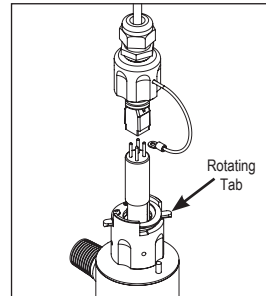
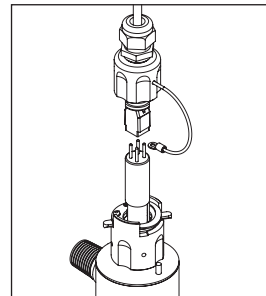
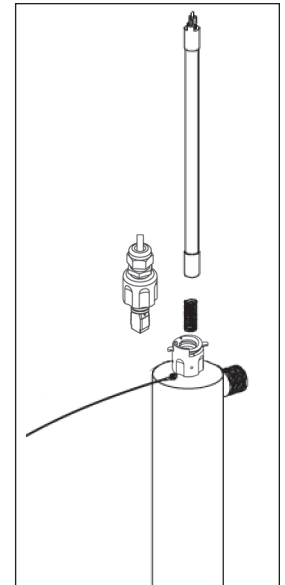
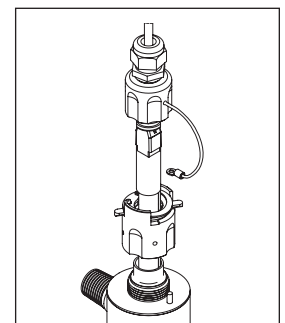

Figure 2A
Figure 2B
Figure 2C
Figure 2D
2. Disconnect main power source and allow the unit to power down for 30 sec. Remove the lamp connector by rotating the tab of the gland nut (Figure 2A). Remove connector and lamp from the reactor chamber. Separate the lamp from the connector (Figure 2B). Do not twist the lamp from the connector, simply slide the two apart. Avoid touching the lamp on the glass portion. Handling the lamp at the ceramic ends is acceptable, however if you must touch the lamp glass, please use gloves or a soft cloth. Fully remove the lamp from the reactor chamber being careful not to angle the lamp as it is removed from the chamber. If the lamp is removed on an angle, pressure will be applied on the inside of the quartz sleeve, causing the sleeve to fracture.
3. To install a new lamp, first remove the lamp from its protective packaging, again being careful not to touch the lamp glass itself. Carefully insert the lamp into the reactor vessel (actually inside the quartz sleeve) (Figure 2C). Insert the lamp fully into the chamber leaving about two inches of the lamp protruding from the chamber. Next, attach the connector to the UV lamp (Figure 2B). Lamp is not keyed so it is important to ensure the lamp wires do not interfere with UV sensor detection as low UV alarms could result in UVSS-M models. The two wires should be oriented furthest away from the sensor port. Ensure the connector is fully seated onto the UV lamp (Figure 2D).